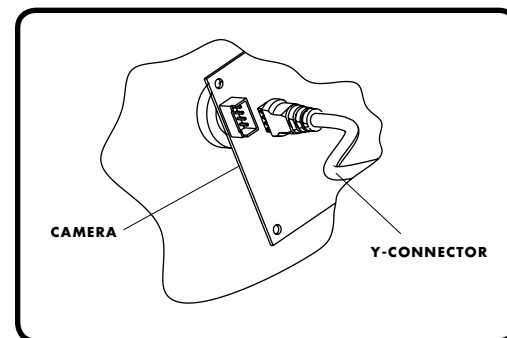

FIGURE 4
3. Attach the Y-connector camera plug to the camera. [**FIGURE 4**]